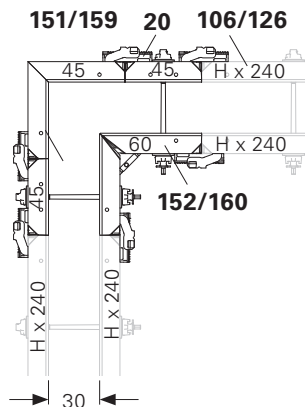

Fig. D2.06
- Wall thickness 30: Fig. D2.06 + D1.06a/c + D2.06b/d